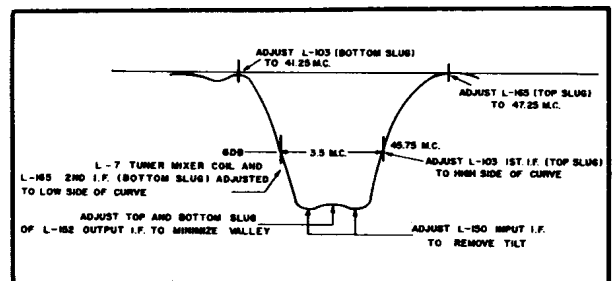

Figure 6 - Video I.F. Phased Pattern
3. Connect the negative side of 3.0 volt battery to point (4); connect positive side to chassis.
5. Connect vertical input of oscilloscope to point (1); connect ground lead to chassis.
7. Refer to Fig. 6 for correct position of each coil slug to obtain the resultant I. F. Position as shown.